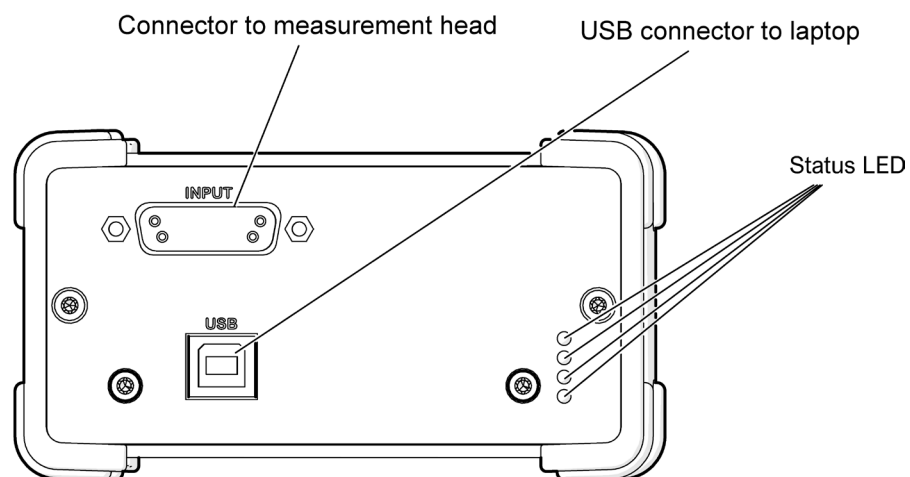

Fig.6: Functional elements of the OVT® Data Logger
- The OVT Data Logger has to be placed on its bottom (marking of functional elements orientated according fig. 6 → page 10) .